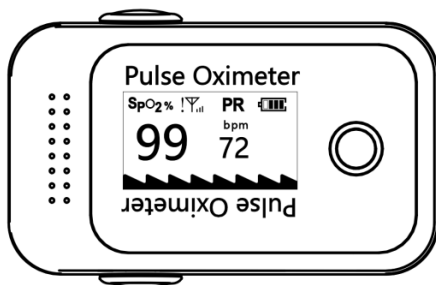
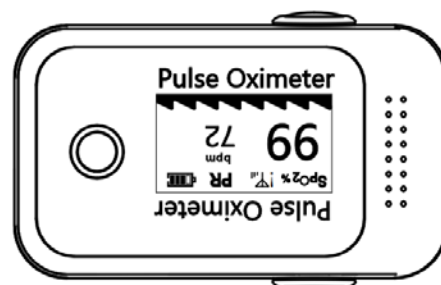

Figure 7
Figure 8
- a. Press the "POWER/FUNCTION" button to power on the device, press it again to rotate the display orientation, as shown in **Figure 7** and **Figure 8**.